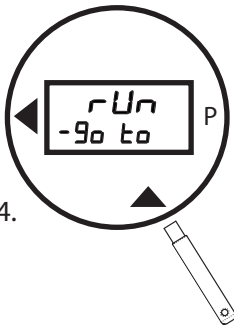

Figure 24.
- b. Pass the wand over ▲ to increment to the **rUn - Go** selection (Figure 24).